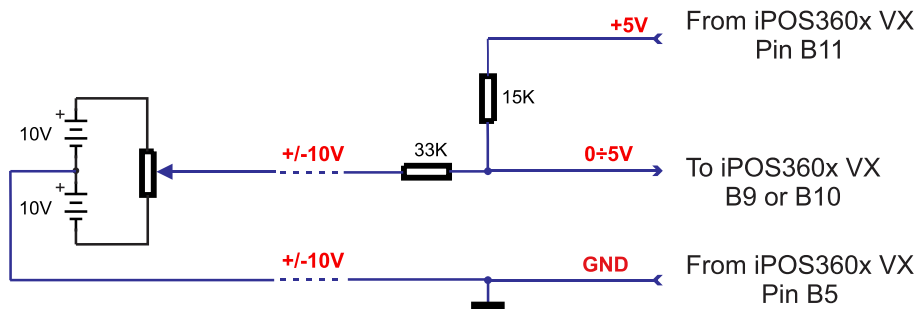

Figure 3.17. +/-10V to 0-5V adapter
2. Default input range for analog inputs is 0+5 V for REF and FBDK. For a +/-10 V range, see Figure 3.17.